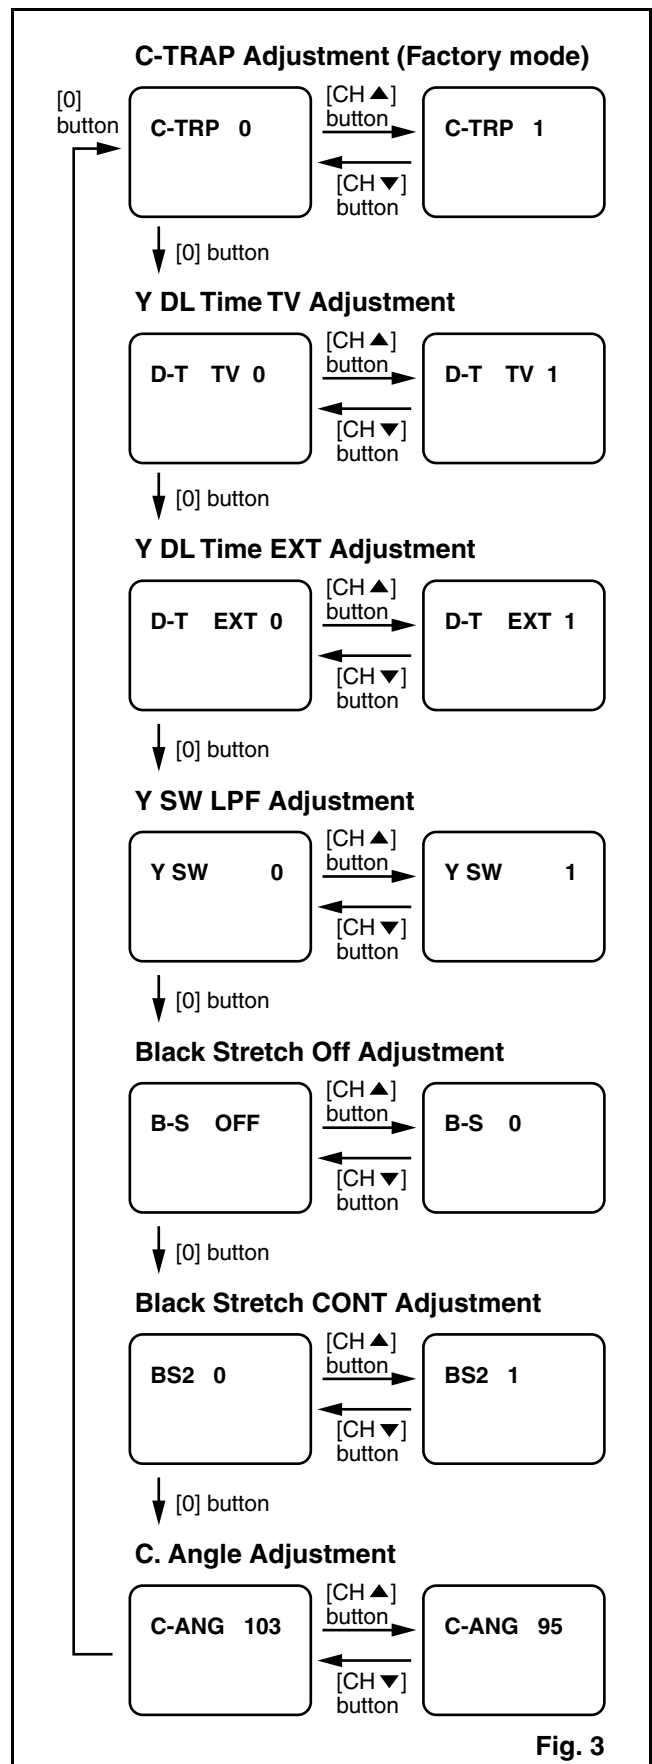

Fig. 3
3. Press [0] button on the remote control unit and select C-TRAP mode. (Fig. 3)